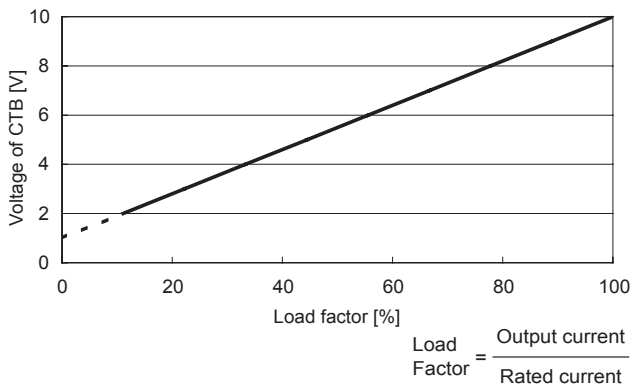

Fig.4.2 Load factor conversion graph
- Fig.4.2 shows the relationship between the voltage of the terminal CTB and the load factor.
- The output current shown in Fig.4.2 should be used only as a guide.